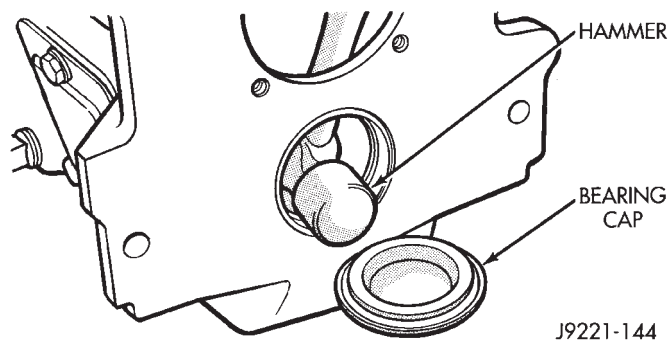

Fig. 56 Countershaft Front Bearing Cap Removal
(1) Remove countershaft front bearing cap. Use mallet or hammer to remove cap from inside case (Fig. 56).